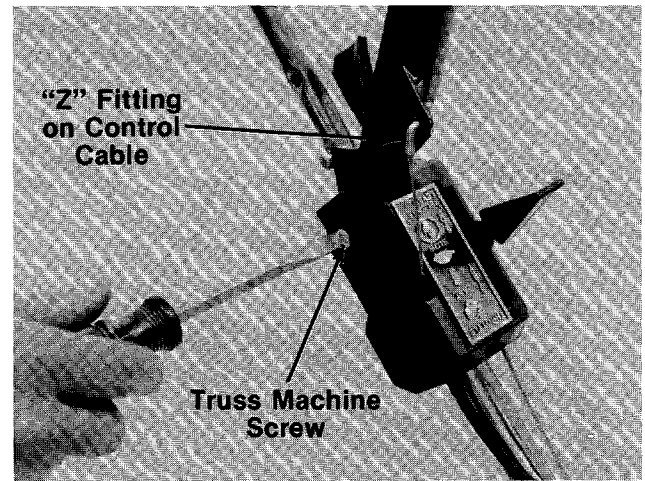

FIGURE 26.
4. Remove one truss machine screw on the inside of control housing as shown in figure 26. Loosen the truss machine screw on the outside of the control housing until the control housing halves can be separated enough for the control cable to be freed.
5. Disconnect the "Z" fitting on the blade brake/clutch cable from the clutch control handle. See figure 26. Slide the blade brake/clutch cable out of the control housing.